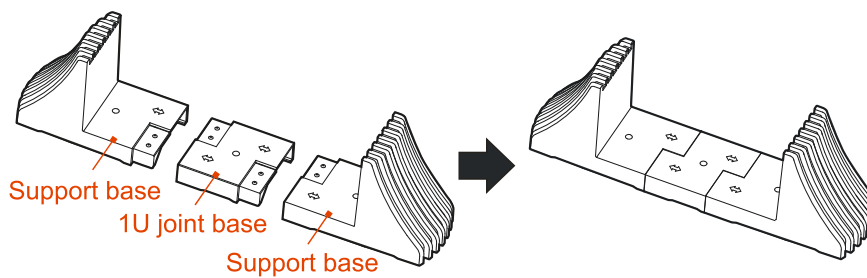

Figure3-4 Assemble support base
- Step 1 Take out a pair of support base and 1U joint base, assemble them together, as shown in Figure3-4, and lay them flat for the UPS tower base.